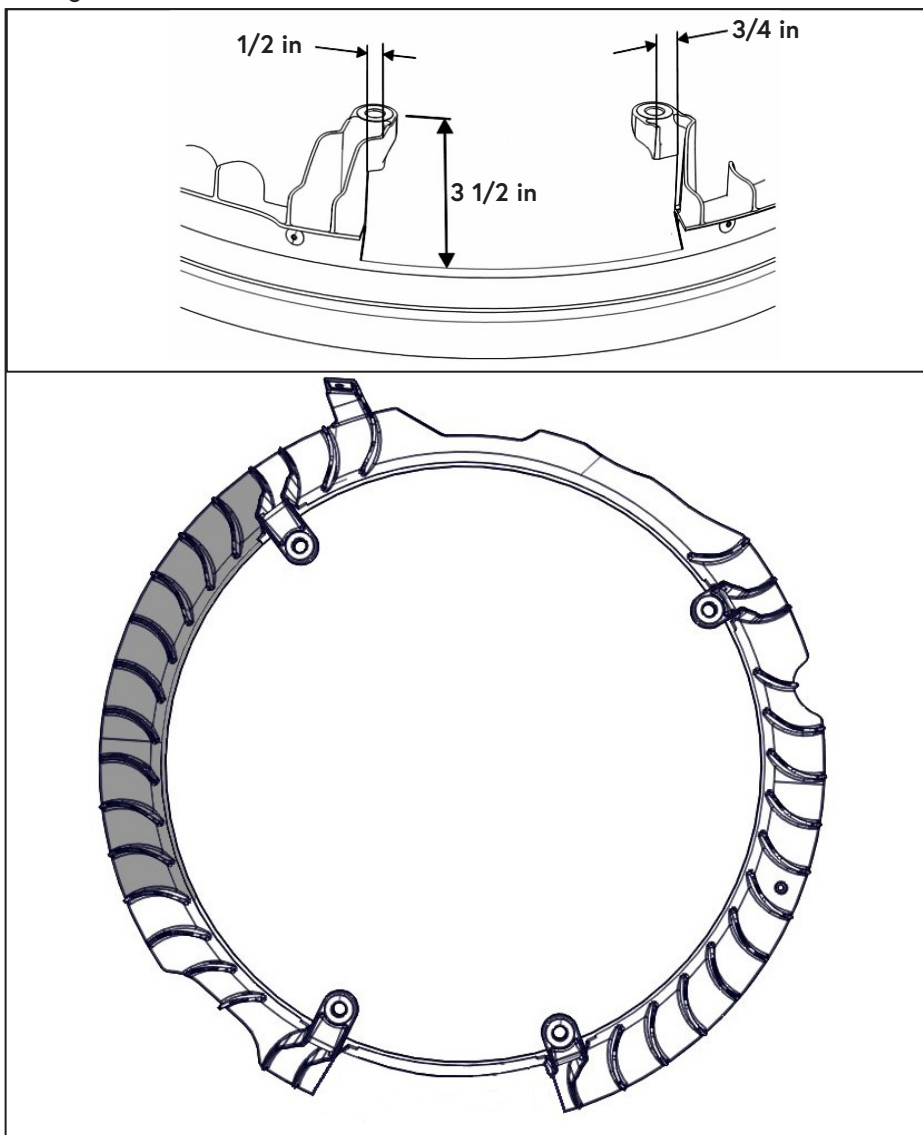

**Figure 37 — Connect hose to VMAC cooler**
- ☐ Connect the hose to the small spigot on the passenger side of the cooler using a hose clamp (Figure 37).